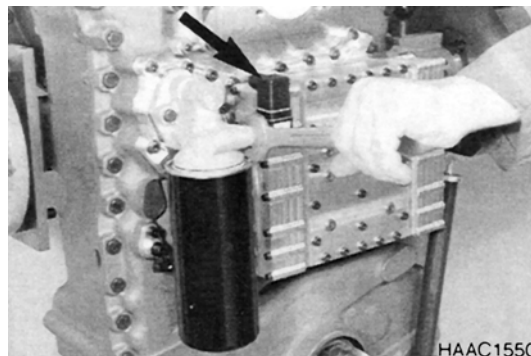

Figure 85
1. Remove warning switch (Figure 85) from filter head.